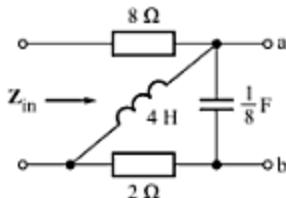

Fig. C-48
- C-45.** For the network of Fig. C-48, find Z_{in} at $\omega = 4$ rad/s if terminals a and b are (a) open-circuited, and (b) short-circuited.